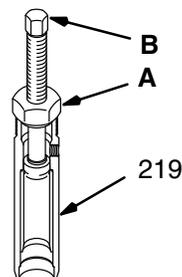

Fig 23
- 5 Screw the large nut (A) of the tool into the top of the cylinder (219). Screw down the rod (B) to push the sleeve out. Remove the tool. See Fig 23.